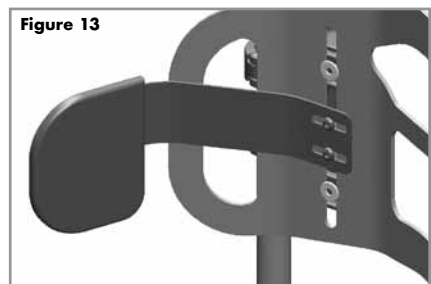

Figure 13
1. With the user in the chair and the foam insert and cover installed, estimate where the lateral trunk supports will be installed by slipping them between the back shell and the foam insert and cover (Figure 13).